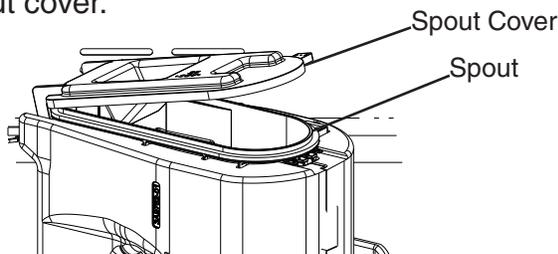

Fig. 13
- 6) "GM" LED and "COMP" LED are on. Open the spout cover slightly. See Fig. 13. "GM" LED and "COMP" LED turn off within 10 seconds and the control board sounds a 9 beep alarm. Close the spout cover.